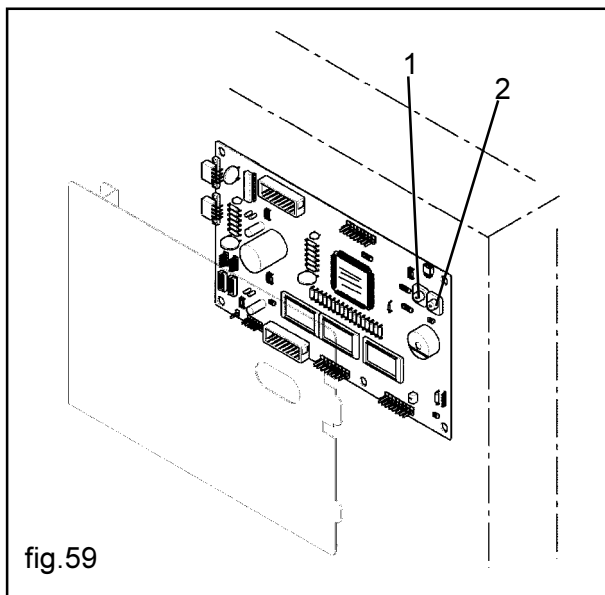

fig.59
The programming function is accessed by pressing the button 1 positioned on the C.P.U. board (fig.59); the request for the access code to be entered by means of the keypad, will appear on the display.
Once the parameter modifications have been concluded, you can exit from programming mode by pressing key 1 again on the C.P.U. board (fig.59).
To exit from the programming mode press “PRG” until one of the above listed functions appears on the display, then press the programming key positioned on the C.P.U. board (key 1, fig.59) in order to return to the selection mode.